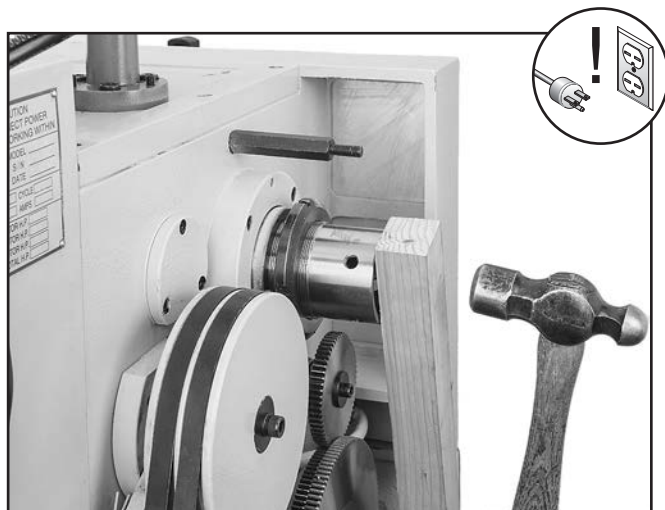

Figure 138. Introducing detectable end-play.
7. Place a wooden block over outboard end of spindle, tap it a few times with a small sledge or heavy dead blow hammer (see **Figure 138**). Your goal is to slide the spindle forward just enough to introduce spindle end-play that you can feel by hand.